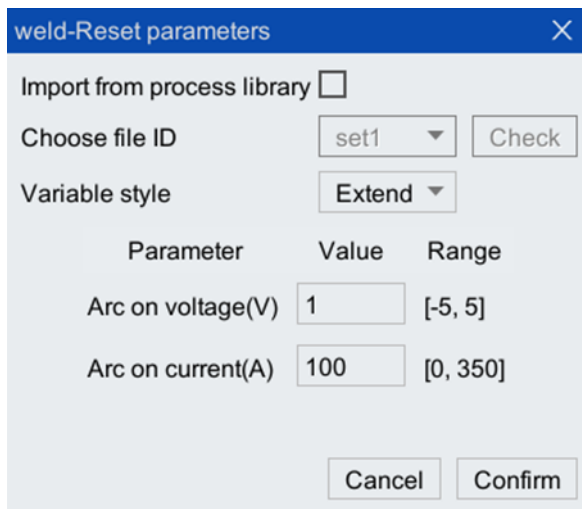

Fig. 7-4 "Arc Welding-Reset Parameter" interface
Step 4. On the pop-up "weld-Reset parameters" interface, complete the process file import or parameter configuration, and then click "Confirm". The reset parameter instruction will be generated automatically, as shown in Fig. 7-4.